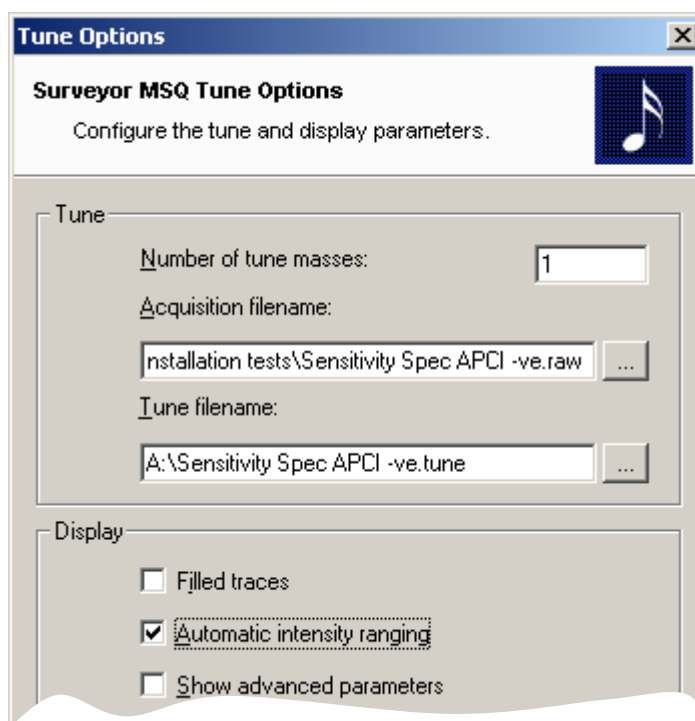

Figure 2-23. Tune Options window – APCI -ve
- Using the button to the right of “Acquisition filename,” browse through to **-C:\Xcalibur\Installation\Installation tests** and type in: **Sensitivity Spec APCI -ve.raw**. Check that the Tune filename is **A:\Sensitivity Spec APCI -ve.tune** (see Figure 2-23). Continue as before, but use the 2pg/ μL p-Nitrophenol test sample.